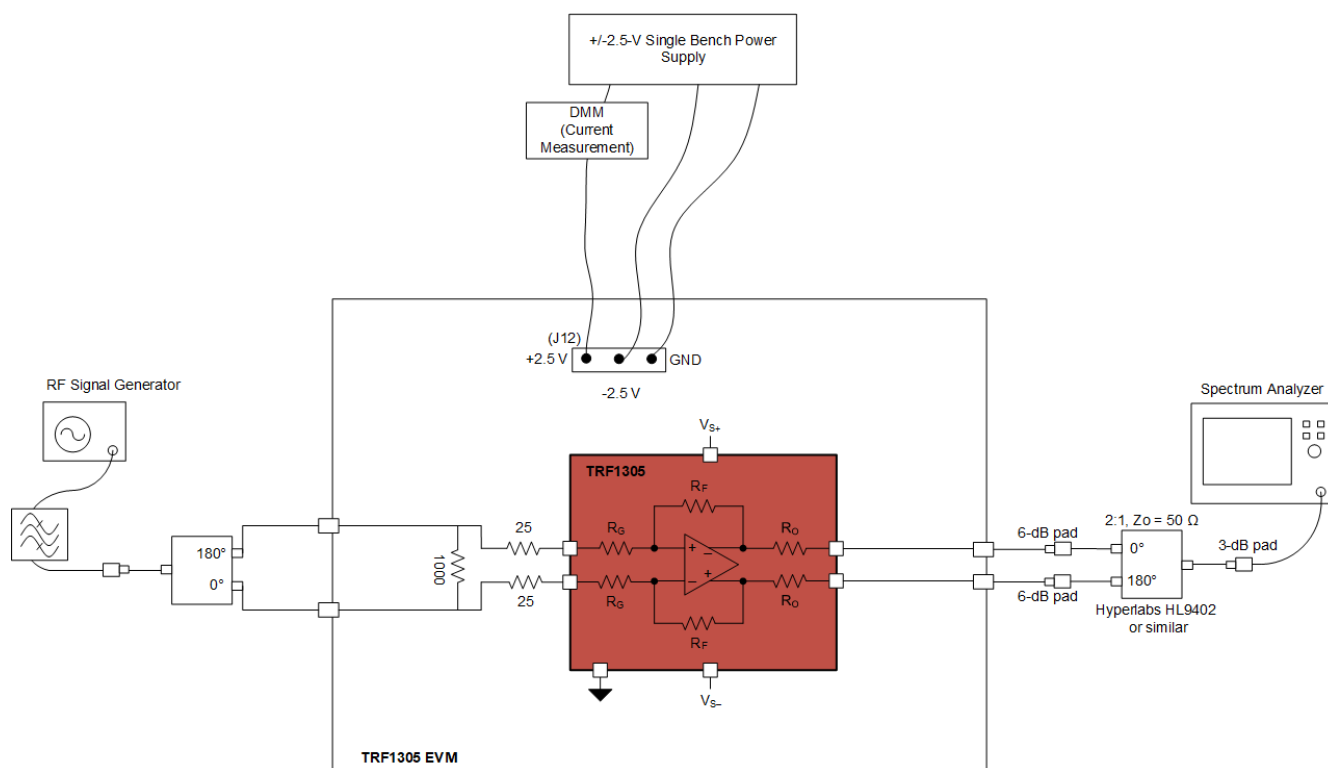

Figure 2-1. Single Tone Setup for Gain and Output P1dB
This section provides general usage information for the EVM. See Figure 2-1 for a general single tone setup diagram as a reference point for the following instructions (some components, such as supply bypass capacitors, are omitted for clarity):
- a. Single ended signal from RF signal generator is converted to a differential signal using an external passive balun as shown in Figure 2-1. Differential signal is fed to input SMA connectors, J1, J2. When measuring single tone distortion, use an RF band pass filter as shown in Figure 2-1.
- e. When connecting to a spectrum analyzer, the differential signal out of the EVM must be converted to a single-ended signal using an external passive balun as shown in Figure 2-1.